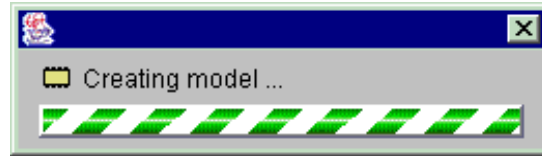

Figure 97 : Creation of a new version
- ◆ A bar graph (Figure 97) indicates that the new version is currently creating.